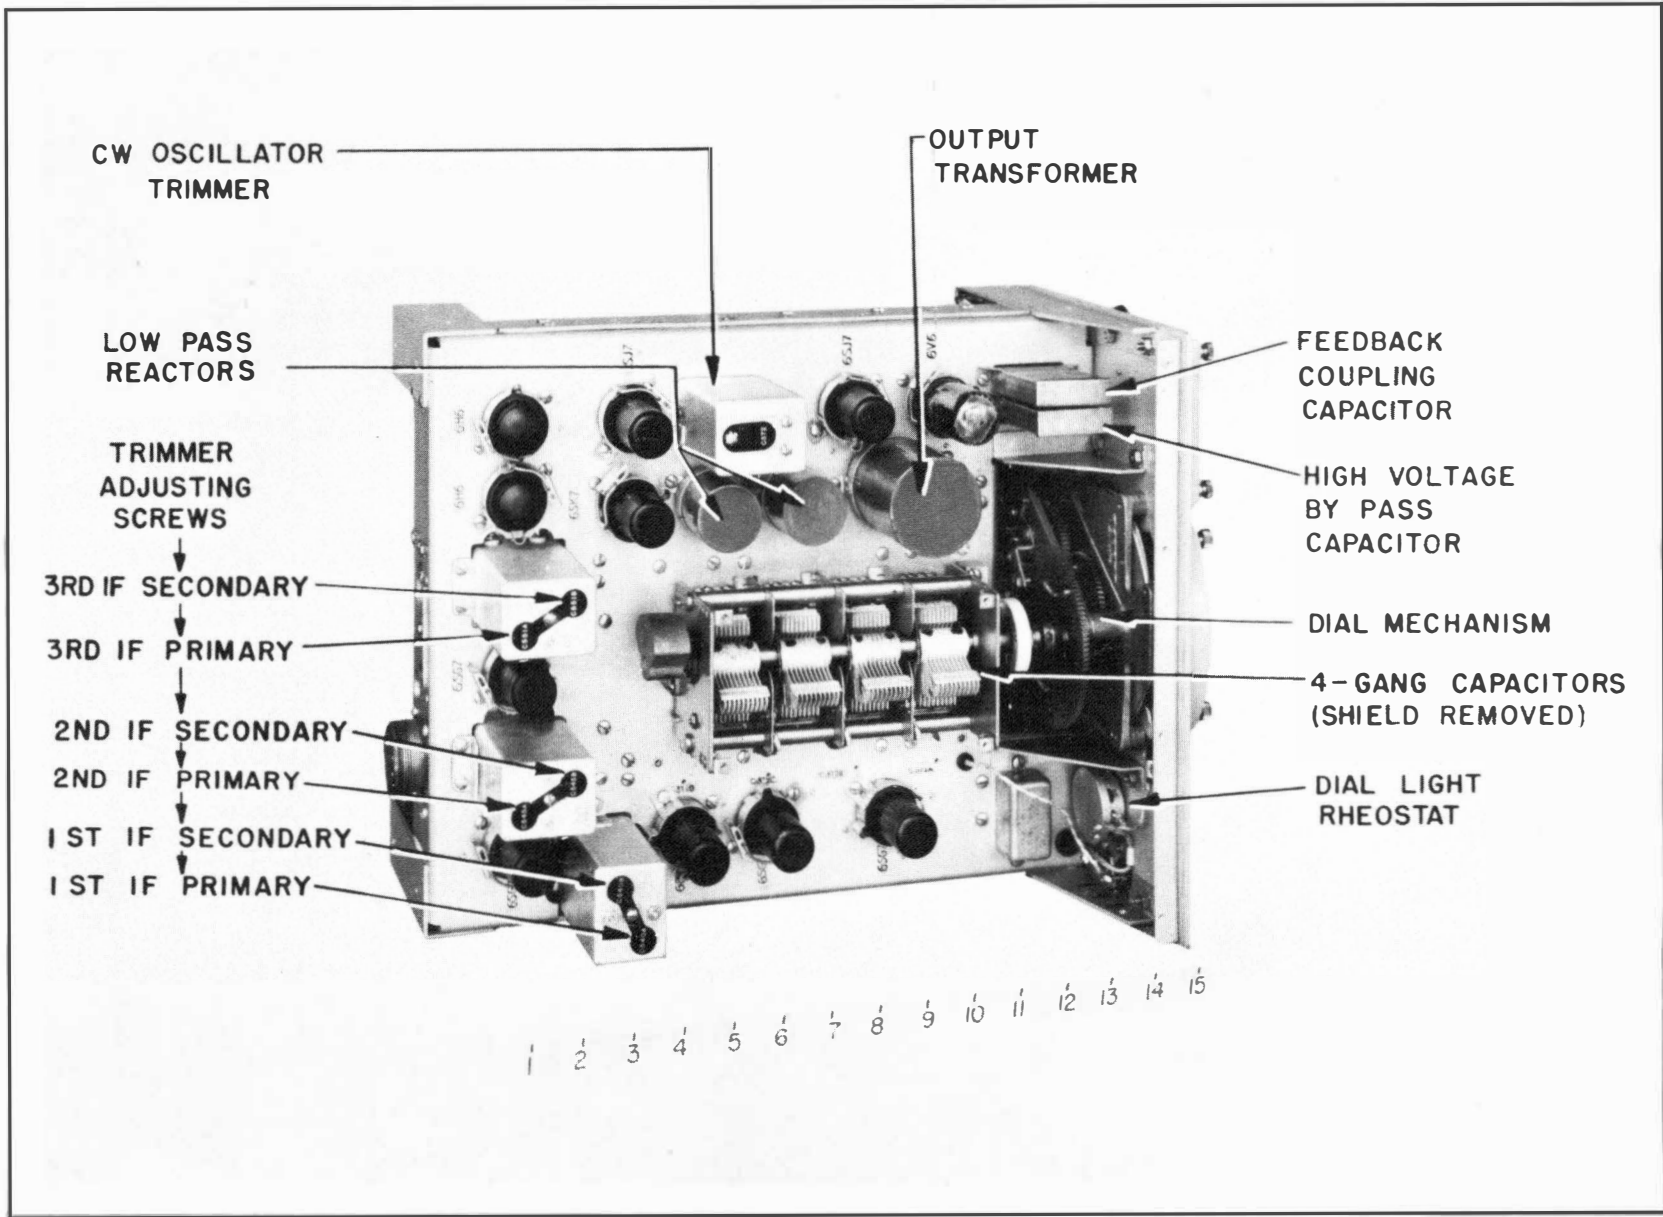

Figure 1-4. Navy Type R-303/FRR Radio Receiver Chassis Showing Principal Components. (Top View).
(1) TOP OF CHASSIS.—Mounted above the chassis are the main four-section ganged capacitor (C-512A, C-512B, C-512C and C-512D), all electron tubes, the beat frequency oscillator transformer (T-507), the low pass filter reactors (L-521 and L-522), and the output transformer (T-508). (See Figure 1-4). The three intermediate frequency transformer assemblies (T-504, T-505 and T-506), located on top of the chassis, are mounted in rectangular openings, through which they project about $1\frac{1}{8}$ inches. Their symbol designations (T-504, T-505 and T-506) are stamped on the bottom and may be viewed from beneath the chassis.
(See Figures 1-4, 1-6, and 1-9).